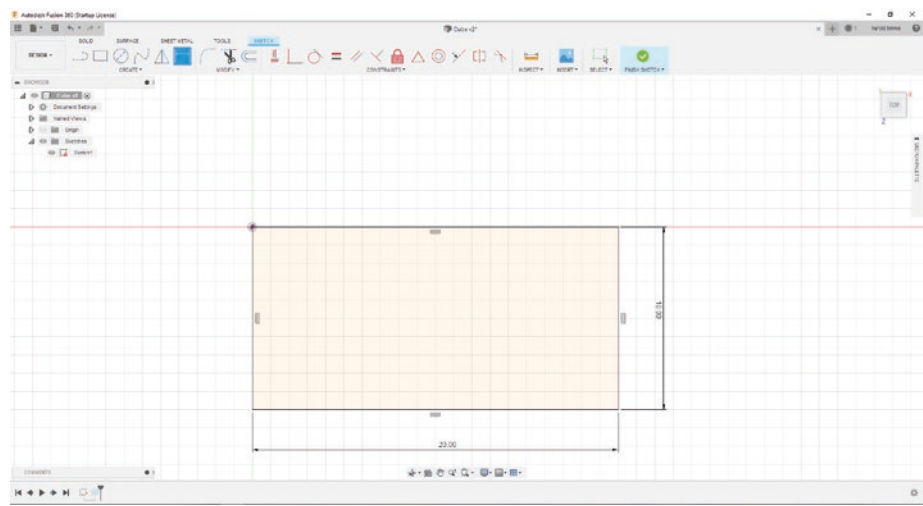

Figure 3-55. Change dimensions for the X and Z axis
4. We want to change this square into a rectangle; let's change (double left-click) the X axis dimension to 20mm and the Z dimension to 10mm. To do this, press the "D" key and select the X axis dimension and type in 20mm, then change the Z dimension to 10mm. Press "Enter" when you are finished. See Figure 3-55.